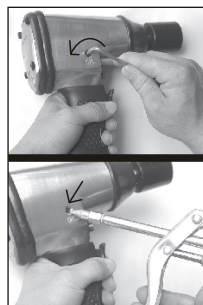

Figure 1
2. Lubricate the rotor gears of motor assembly by first releasing the screw (G) with a hex key (provided) and then using a grease gun (not provided) to insert the gun nozzle into the screw hole. Several drops of grease are recommended for lubrication. After lubrication, replace the screw (G) securely and tightly. This will protect the gears in good working condition and last the tool life. (See Figure 1)